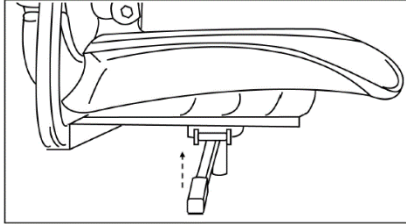

Figure 8: Seat Rotation Adjustment
1. Pull up on the seat rotation lever and rotate the seat to the desired position. *See Figure 8.*